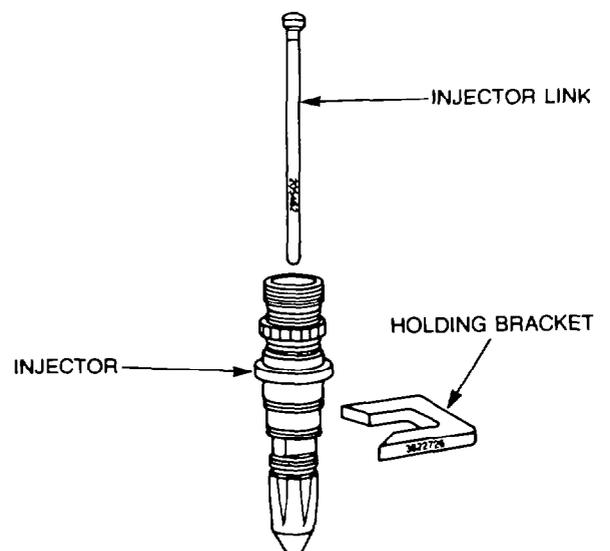

Figure 117 — Holding Bracket and Injector Link
- c. Install the stop screw and lock nut assembly into the injector adapter, then position the holding bracket 3822726 over the flat machined areas of the fuel supply groove. Install the injector plunger link 205462 into the injector (see Fig. 117).